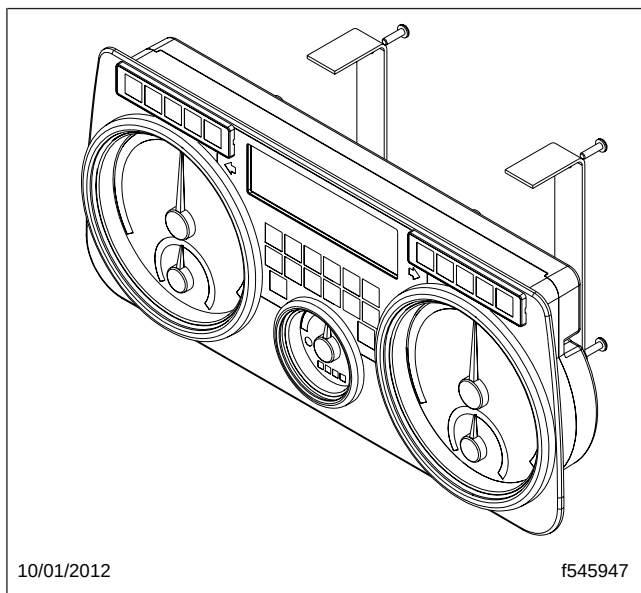

Fig. 2, ICU4ME Dash Panel Installation
1. Slide the ICU4Me in to the housing assembly, then position the two mounting brackets on the ICUMe and install the screws. See Fig. 2.